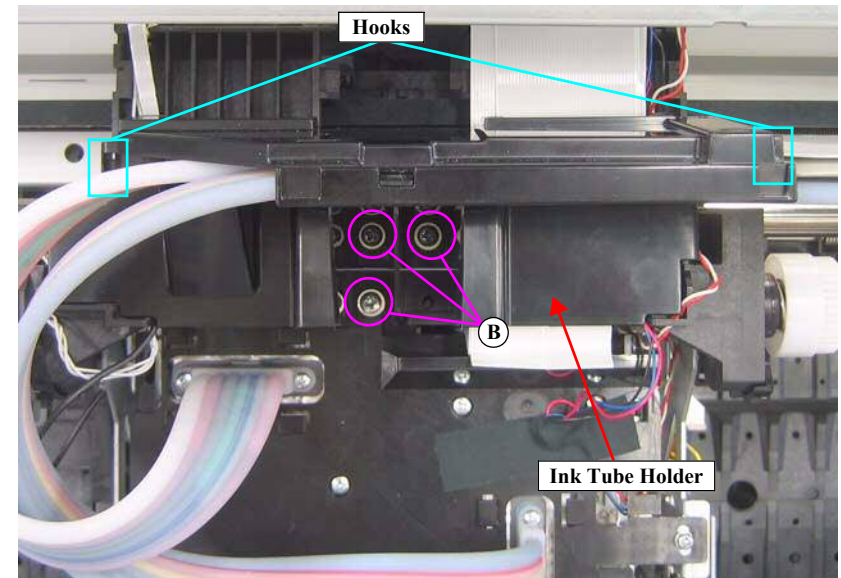

Figure 4-164. Removing the Ink Tube Holder
15. Remove the three screws that secure the Ink Tube Holder. *See Figure 4-164.*